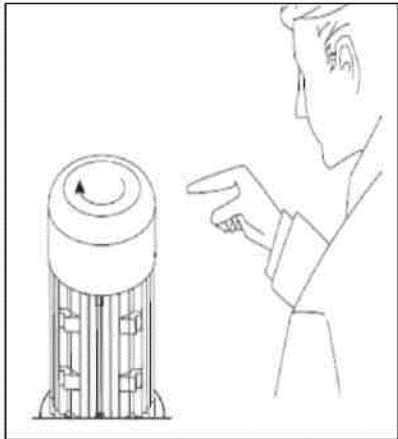

Figure 4
- 8- Run the pump(s) briefly in a controlled manner. Check that the pump shafts rotate in the correct direction. If their direction of rotation is reversed, the terminals in the electrical connection must be repositioned. (See Figure 4).